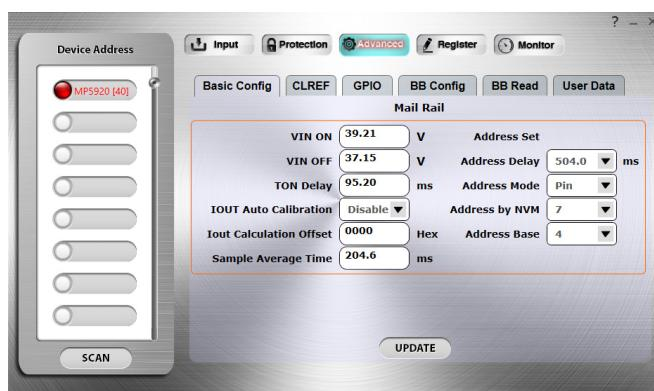

Figure 6: GUI Advanced Page, Basic Configuration Tab
- Basic Configuration: Set the VIN on/off threshold, tON delay time, sample average time, and address selection (see Figure 6).